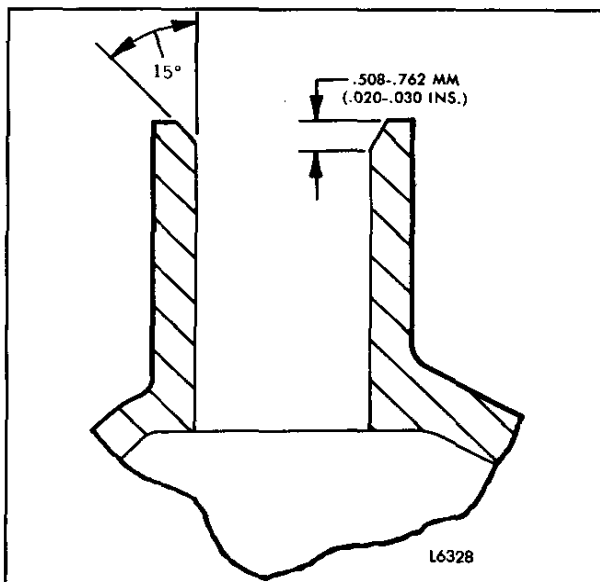

Fig. 7 - Chamfer Top of Cylinder Bore
4. Chamfer the top of the cylinder bore (Fig. 7).